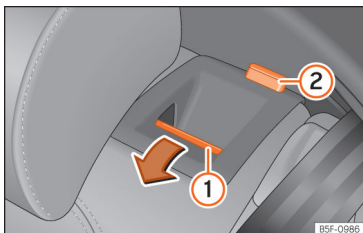

Fig. 93 Rear seat: folding down the backrest.
- Press the unlock button »» Fig. 93 ① forwards and at the same time fold the backrest down. The rear seat backrest is not engaged when the red marking of the button ② is visible.